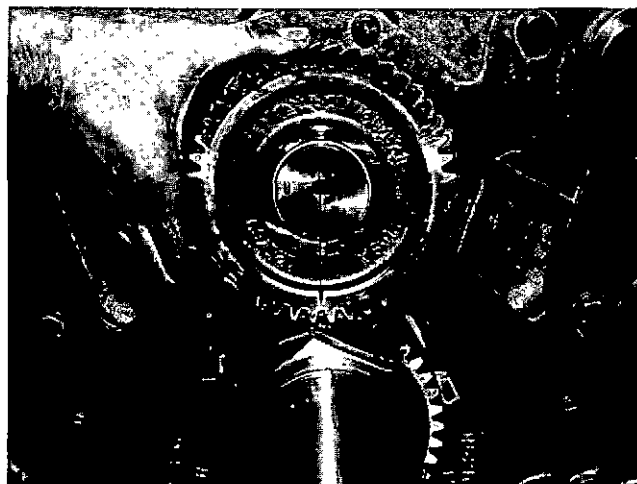

Fig. 14-1-31, V414133. Center idler gear assembly
2. Install center idler gear on idler shaft indexing two "O" marks on idler gear astride single "O" mark on crankshaft gear. Fig. 14-1-31.